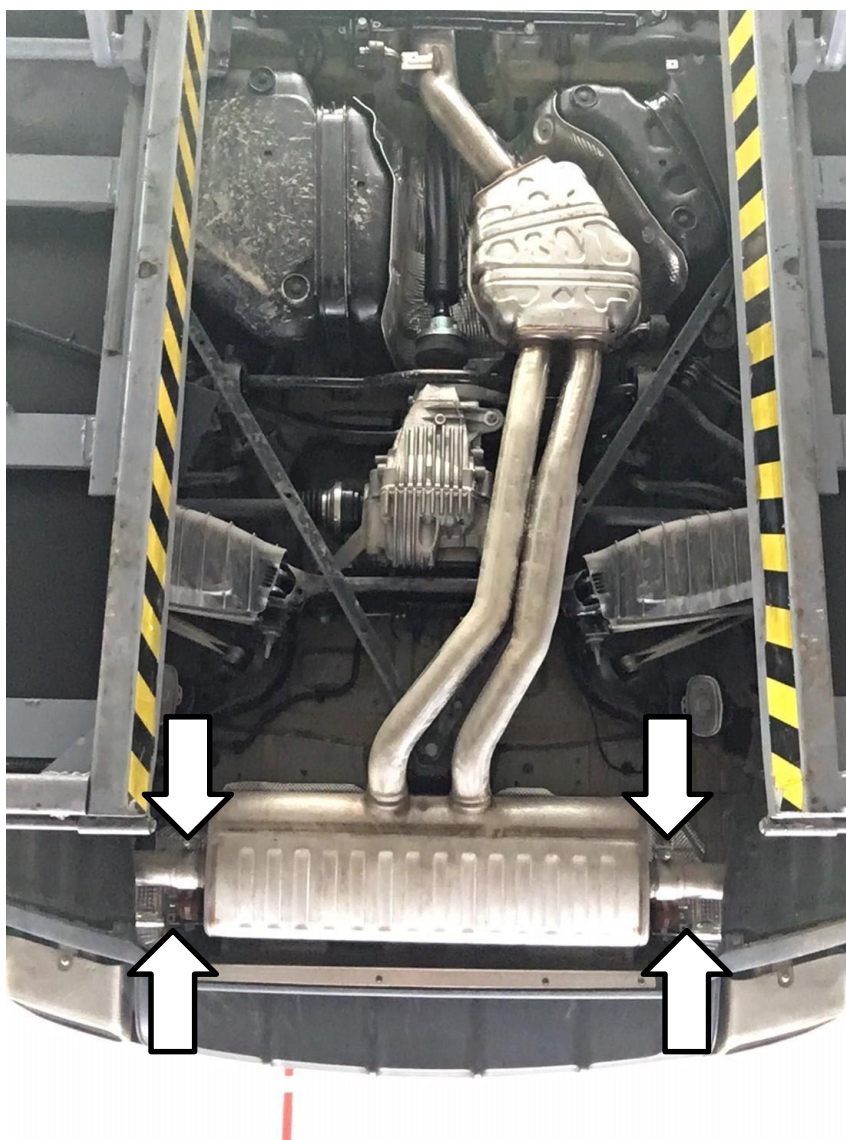

Fig. 5
5. First remove the back muffler export connect pipe and remove the bushes screw then remove cat-back. (Fig.5)